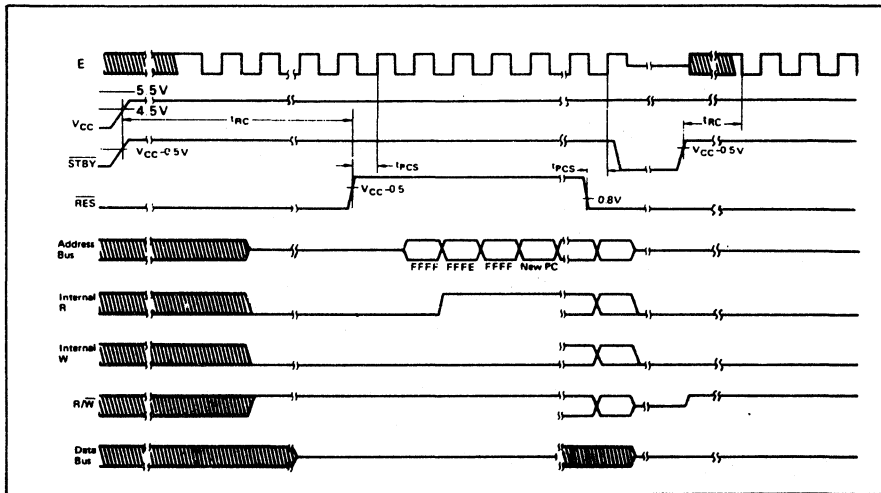

Fig. 2-8-1 Reset Timing
- (1) Latch I/O Port 2 bits 2, 1, and 0 into bits PC2, PC1, and PC0 of the Port 2 Data Register.
- (2) Load the contents (=start address) of the last two addresses (\$FFFE, \$FFFF) into the program counter and start the program from this address. (Refer to Table 2-7-1)
- (3) Set the interrupt mask bit. For the CPU to recognize the maskable interrupts  $\overline{IRQ}_1$  and  $\overline{IRQ}_2$ , this bit should be cleared in advance. Fig. 2-8-1 shows the reset timing, and Table 2-8-1 shows the pin condition during reset.